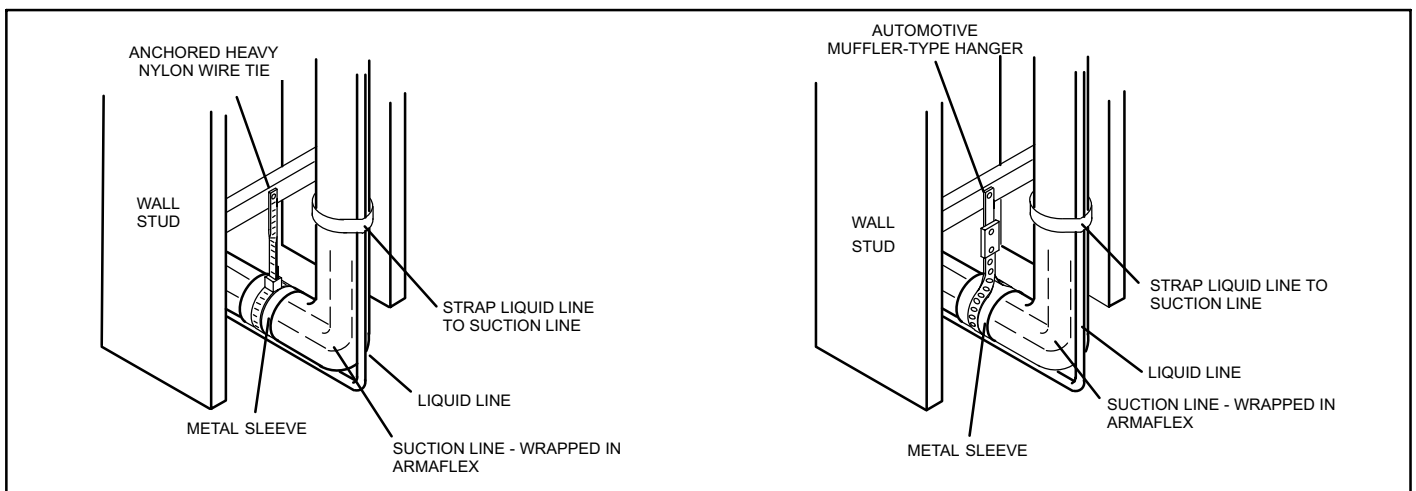

Figure 12. Refrigerant Line Set: Transition from Vertical to Horizontal
- Installation of a transition from horizontal to vertical is illustrated in figure 12.